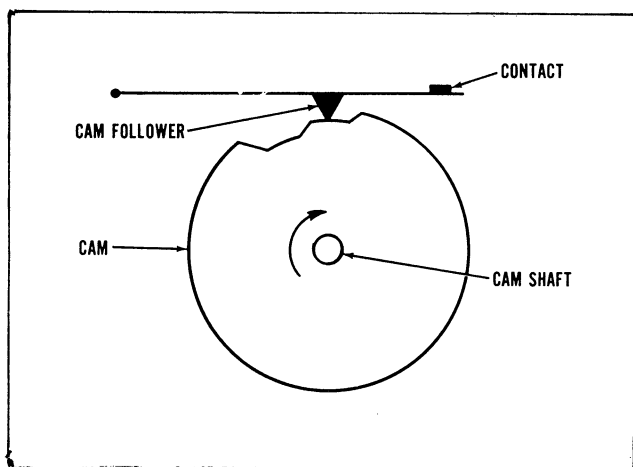
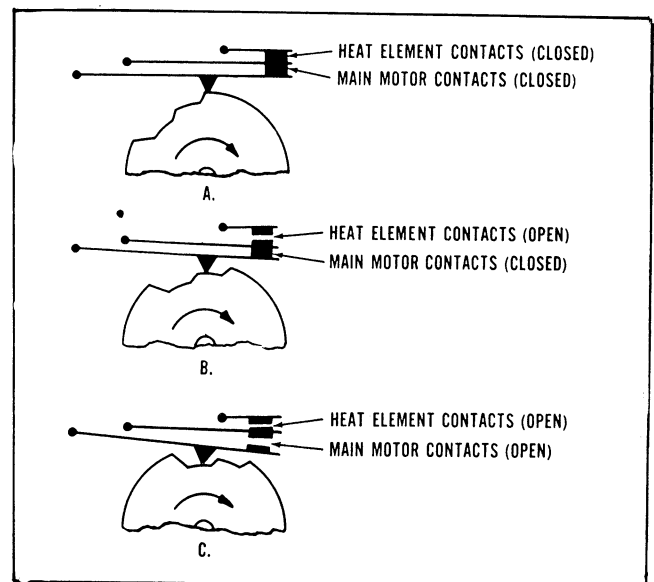

Figure 14
Figure 15
The switch box contains one or two cams, each of which is a circular piece of composition material fixed on a revolving shaft. The cam is shaped so that a cam follower, which rides on the outer contour of the cam, is forced up or down, making or breaking contacts as the cam revolves, *Figure 14*.
In both the single and dual cycle timers, all switch contacts are operated by only one cam. To permit two separate drying cycles, *Normal Drying* and *Wash-and-Wear Drying*, on machines equipped with dual cycle timers, an additional set of notches has been cut out of the cam approximately 180° from those on the single cycle timer cam as shown in *Figure 14*. The switch contacts are operated in the same manner for both cycles. In *Figure 15*, the cam has forced the cam follower up so that the circuits to the heat element or gas burner and the main motor are energized, (A).